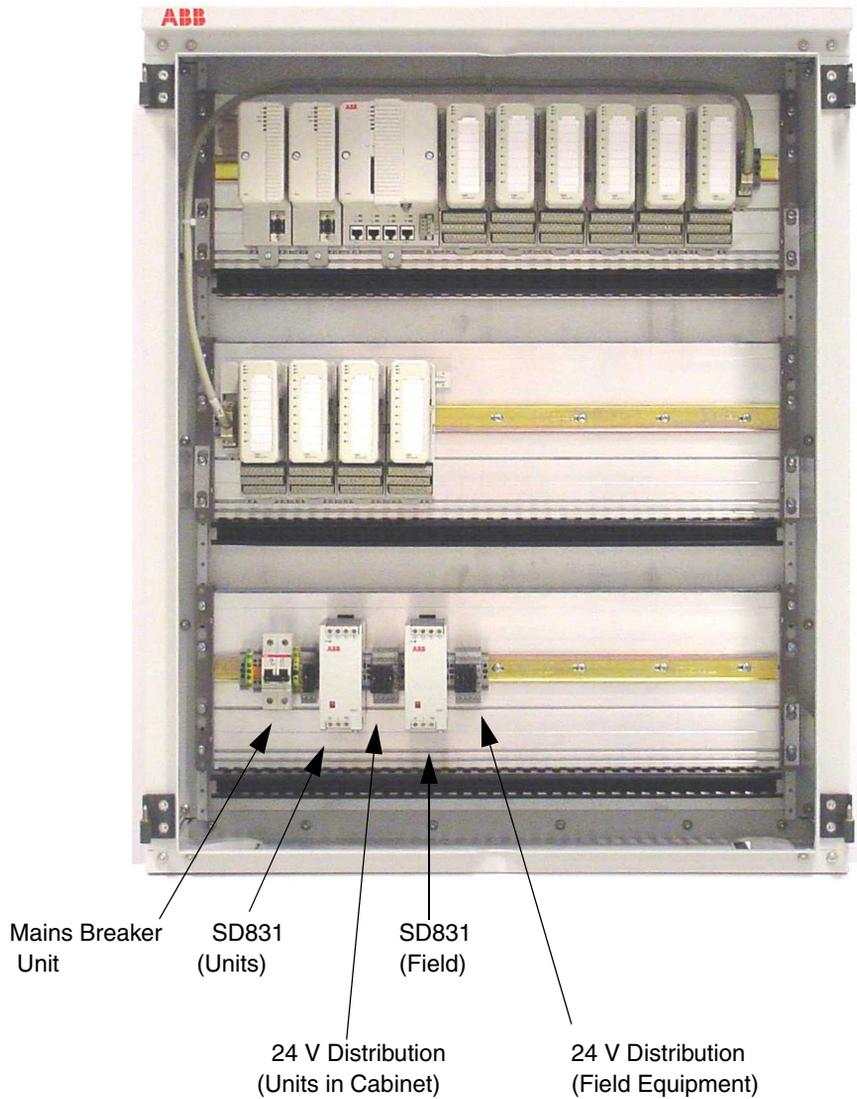

Figure 50. Wall Cabinet – Dual Power Supply (Local/Field) Arrangement
- Figure 50 on page 147: Wall Cabinet – Dual Power Supply (Local/Field) Arrangement